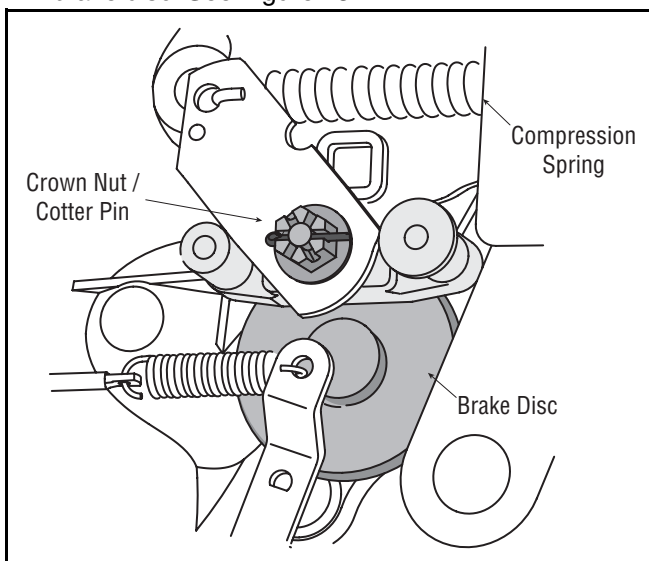

Figure 13
- Looking at the transmission from the right side of the tractor, locate the compression spring and brake disc. See Figure 13.